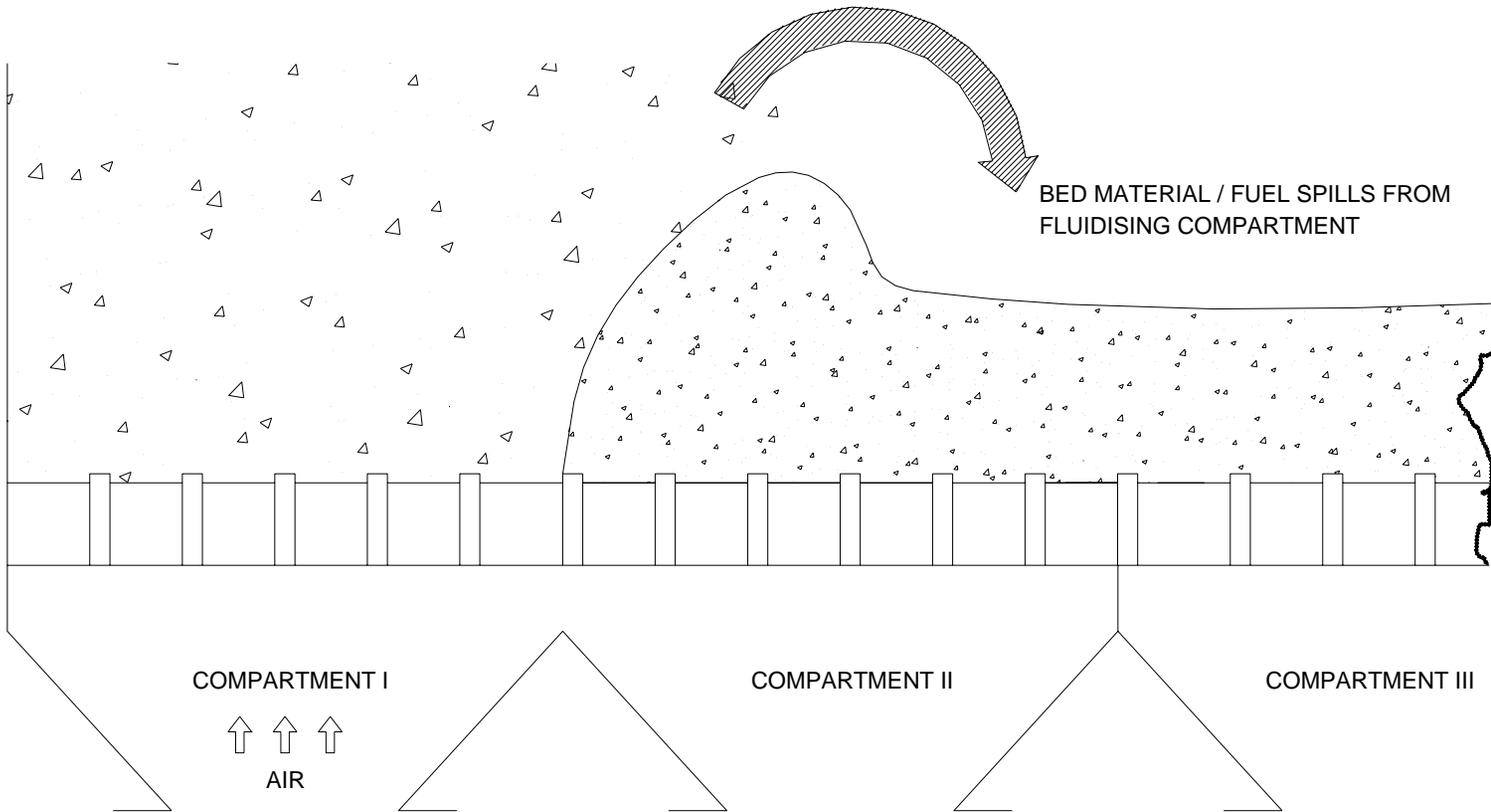

FIGURE 4. BED MATERIAL SPILLAGE TO IDLE COMPARTMENT
- ❑ Continued operation of slumped bed may result in shallow bed height in the operating compartment and leads to defluidization. This happens particularly when bed size is smaller. The bed height in operating bed becomes less when it spills to adjacent slumped compartment. See figure 4.